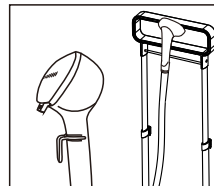

Figure 6
1. Hanging the Steam Nozzle on the Multi-functional Rack with the hooks on both sides of the rack (see figure 6).